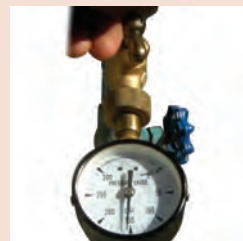

Fig. 4.40
5. Twist the valve to turn ON the water supply in the pipe as shown in Fig. 4.40.